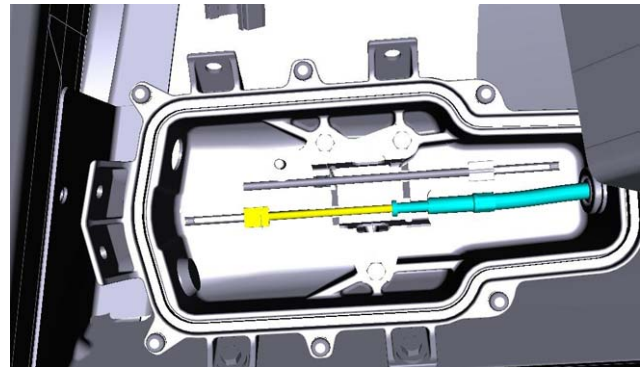

Figure 14
38. Manually push the tonneau latch cable to release the tonneau latch (Refer to Figure 14)